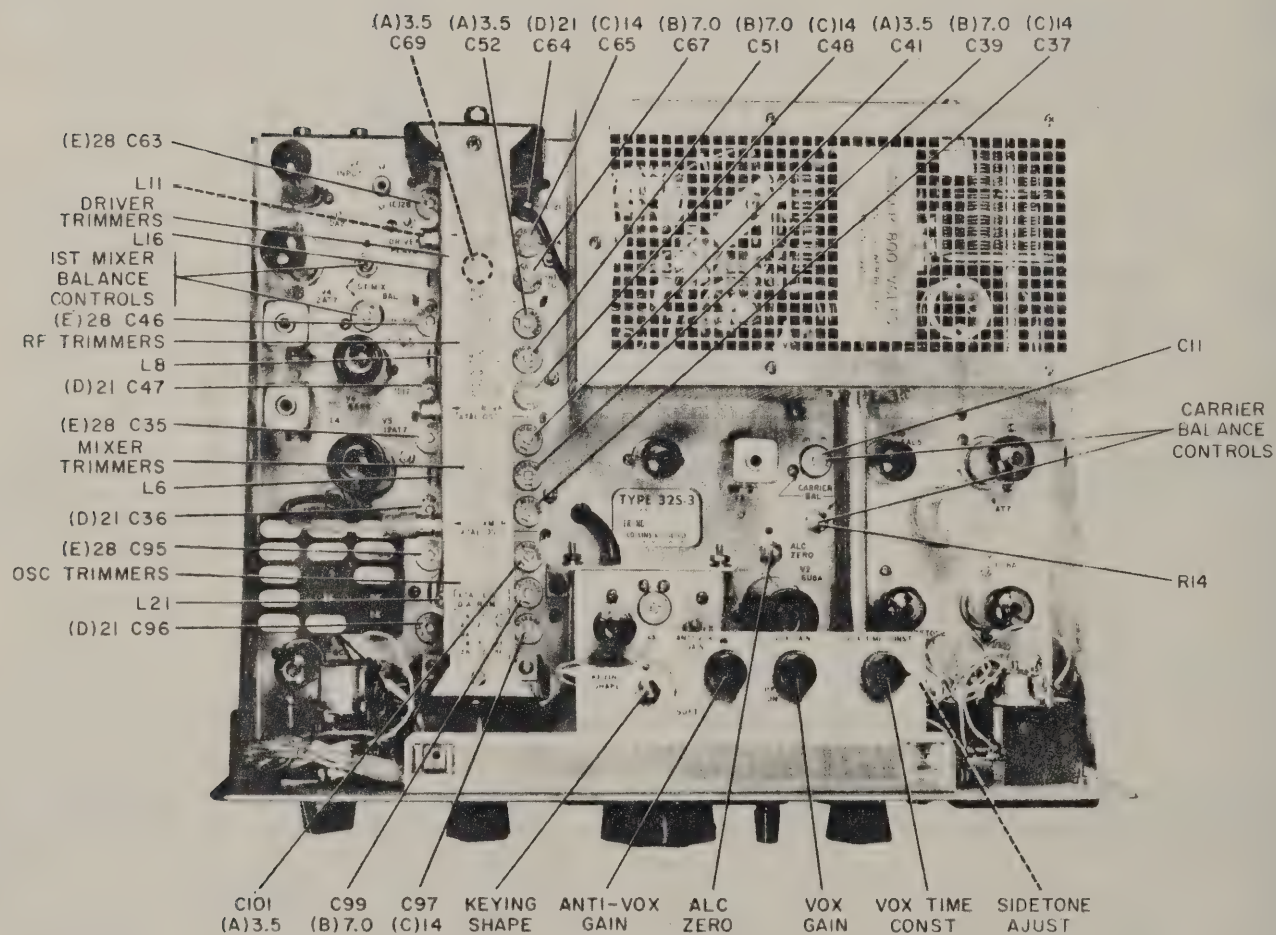

Figure 4-1. Location of Adjustments
b. After a 5-minute warmup period, set EMISSION switch to TUNE and METER switch to P.A. GRID. Adjust MIC GAIN and EXCITER TUNING to produce midscale indication on meter. Set METER switch to P.A. PLATE, and dip plate current with P.A. TUNING. Reset METER switch to P.A. GRID. Peak the four (E)28 trimmer capacitors (C95, C35, C46 and C63) for maximum grid current. See figure 4-1 for trimmer locations.
c. Set BAND switch to 21.2 and tuning dial to 100. Adjust MIC GAIN and EXCITER TUNING for midscale grid current. Set METER switch to P.A. PLATE, and dip plate current. Reset METER switch to P.A. GRID. Peak the four (D)21 trimmer capacitors (C96, C36, C47, and C64) for maximum grid current.
d. Set BAND switch to 14.0 and tuning dial to 150. Adjust MIC GAIN and EXCITER TUNING for midscale grid current. Set METER switch to P.A. PLATE, and dip plate current. Reset METER switch to P.A. GRID. Peak the four (C)14 trimmer capacitors (C97, C37, C48, and C65) for maximum grid current.
e. Set BAND switch to 7.0 and tuning dial to 150. Adjust MIC GAIN and EXCITER TUNING for midscale grid current. Set METER switch to P.A. PLATE, and dip plate current. Reset METER switch to P.A. GRID. Peak the four (B)7.0 trimmer capacitors C99, C39, C51, and C67 for maximum grid current.
Table 4-1 lists significant test points and normal signal levels. Figure 4-1 shows location of adjustments. Before making measurements, set EMISSION switch to USB, and disable the power amplifier by disconnecting screen and plate voltages from both tubes. Set the METER switch to P.A. GRID. Peak EXCITER TUNING, and turn VOX GAIN control counterclockwise until switch clicks. Connect signal generator output to test points indicated in table 4-1, and adjust signal generator output attenuator until PA grid current just begins to show on meter. Attenuator reading is signal voltage necessary at that point. Voltages given in the table are nominal and may vary plus or minus 20 percent. Be careful each time to set signal generator to frequency shown in table. Oscillator output voltage may be measured with a vacuum-tube voltmeter.